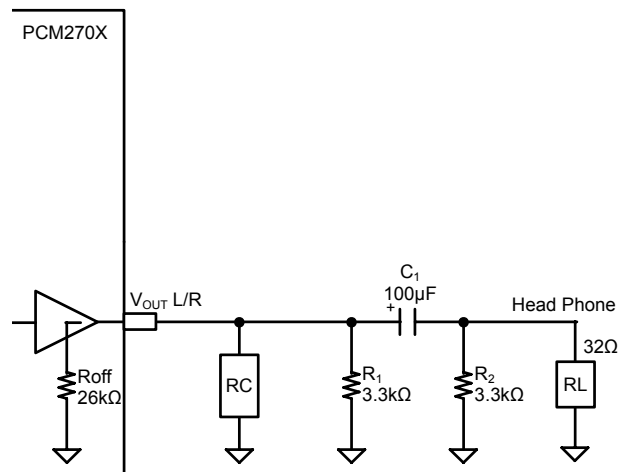

Figure 1
8.1 Example of 32 Ω Head Phone Load (Fig. 1)
The "RC" in Figure 1 is phase compensation circuit which consist of $C = 0.022\mu\text{F}$ and $R = 16\Omega$ in order to make PCM270x to work in stable against load impedance variation.